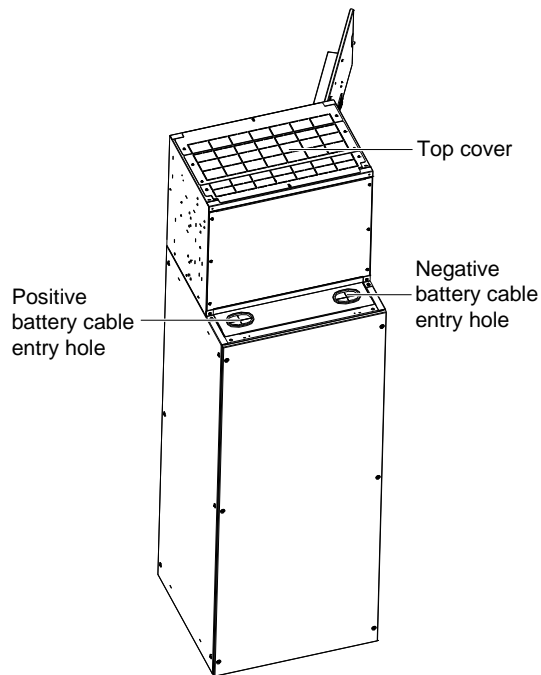

Figure 2-12 Battery cable entry hole
- 2) Route the battery cables through top cover of the power supply system and battery cable entry holes of the battery cabinet. Bind the cables beside the battery. Wrap all the bare parts of the cable terminals with insulating tape. Do not connect the cables to the battery until the DC distribution unit is to be tested. The positions of the battery cable entry holes are shown in Figure 2-12.